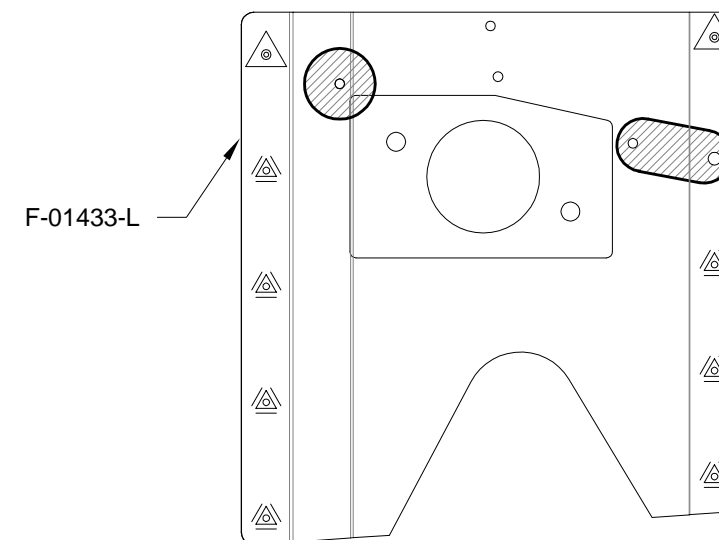

FIGURE 2: FLAP BLOCK BRACKET RIVETS
See Figure 1 and Figure 2. Deburr the holes thoroughly before proceeding.
Step 2: Dimple the #17 Holes in the F-14119 and F-14120 Root Fairing Attach Angles as shown in Figure 1 and Figure 2.